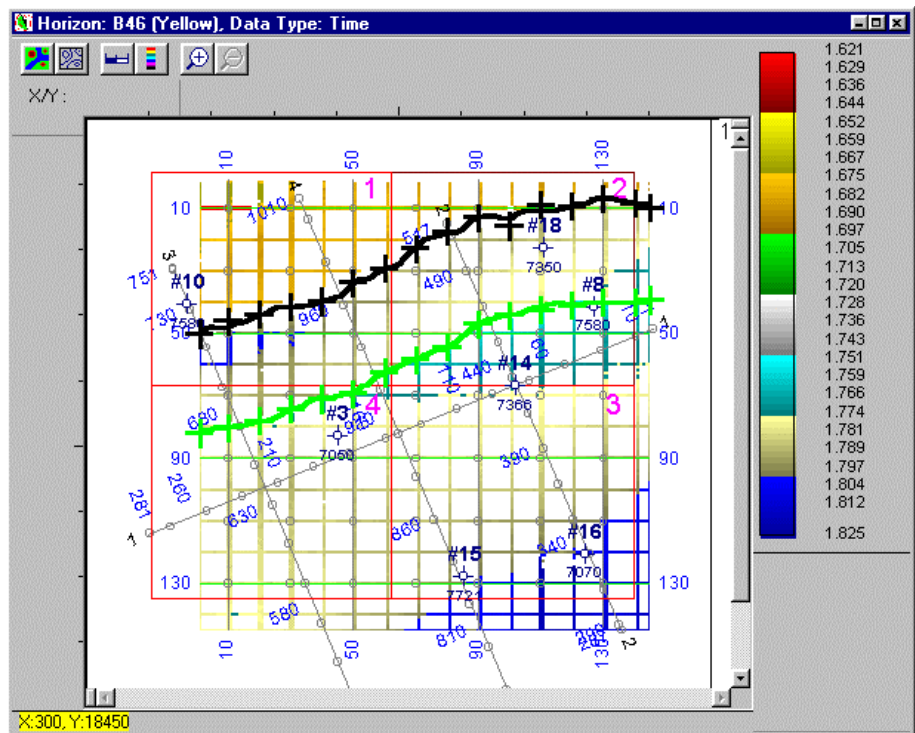

Figure 9: Horizon picks are shown on the grid of in-lines and cross lines. Travel times are color coded. Fault intersections are correlated through the area.
32. Once the inline has been picked, place the cursor on crossline 70 on the seismic display, right click and display the line. A small tick mark is visible where the two lines intersect. You may also see a vertical red line. This red line is a line overlay and can be disabled by left clicking on *View* and selecting *Line Overlays*. A check mark indicates 'on'. If you chose the **Hunt mode**, left click once on the tick mark and the entire horizon between fault segments is completed.. Increment through your data using the arrow keys and continue picking this horizon, You should end up with picked grid of lines for the B46 horizon (Figure 9)